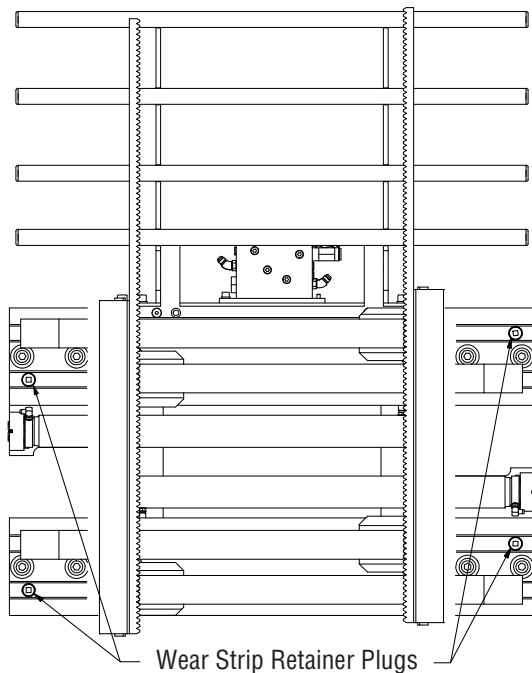

Figure 5-15, Arms Closed
1. Position the arms to the closed position. Turn off the truck's power. (Figure 5-15)